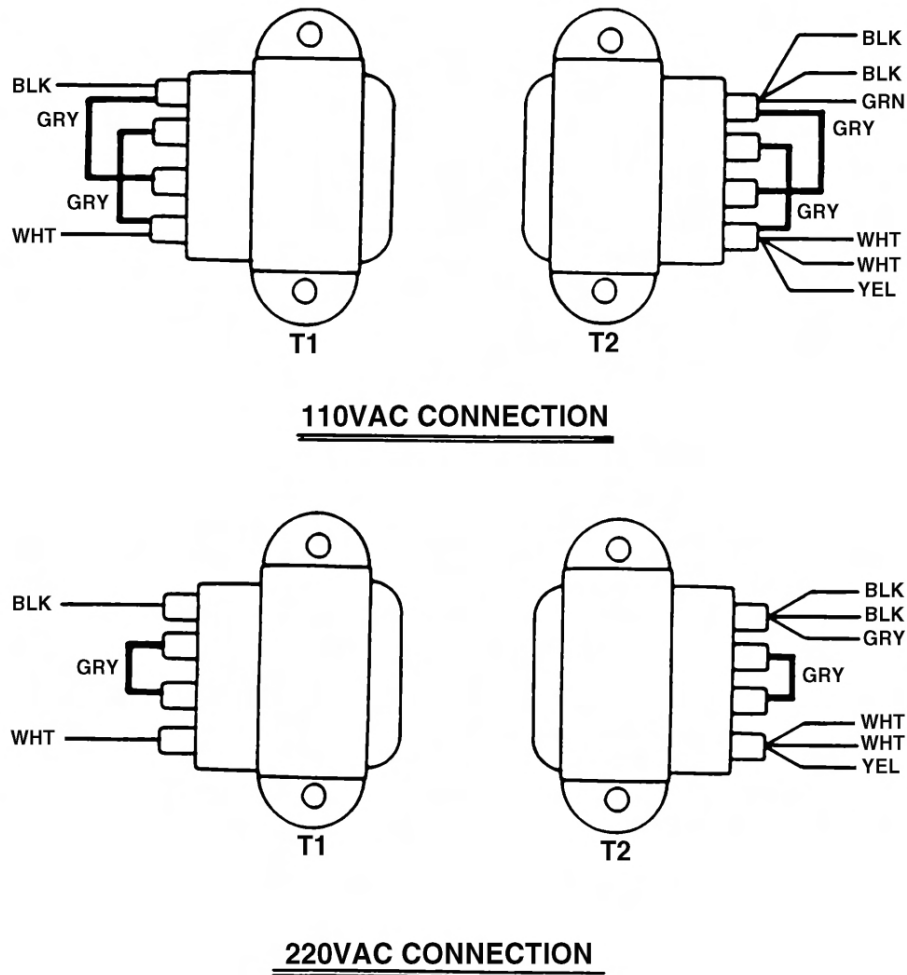

Figure 1-4. Transformer wiring.
a. **Set Line Voltage.** The 232M may be operated on 110vac or 230vac. To set the line voltage, set the jumpers on the transformers T1 and T2. Refer to figure 1-4.